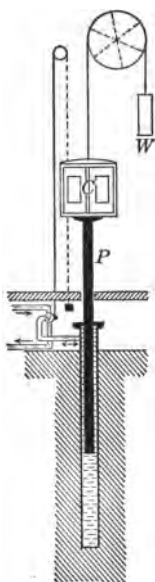

FIG. 23. — Hydraulic elevator.
35. The Hydraulic Elevator. Fig. 23 shows a simple form of hydraulic elevator, which is an application of Pascal's law. Water from the city mains, or from a reservoir, enters a cylindrical pit through the valve *V*. In this pit it exerts an upward pressure on the piston *P*, which is a shaft whose